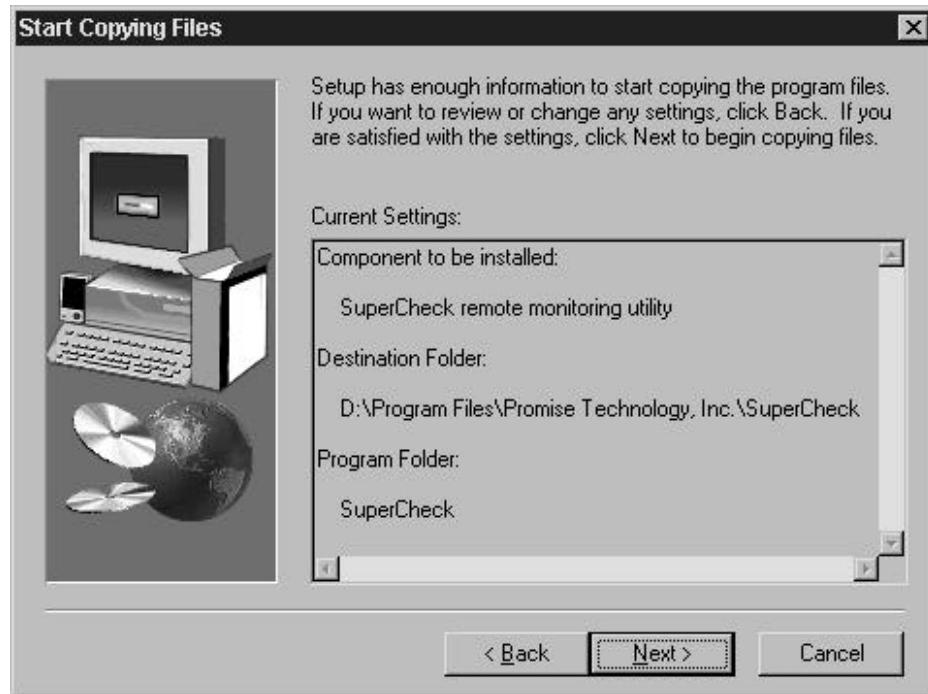

Figure 21: “Start Copying Files” window
- 9) The “Start Copying Files” window will then be displayed (see Figure 21 below). Verify that the proper component(s), destination folder, and program folder you selected for installation are correct, then click on “Next” to proceed. If otherwise, click the “Back” button to go back and make changes.